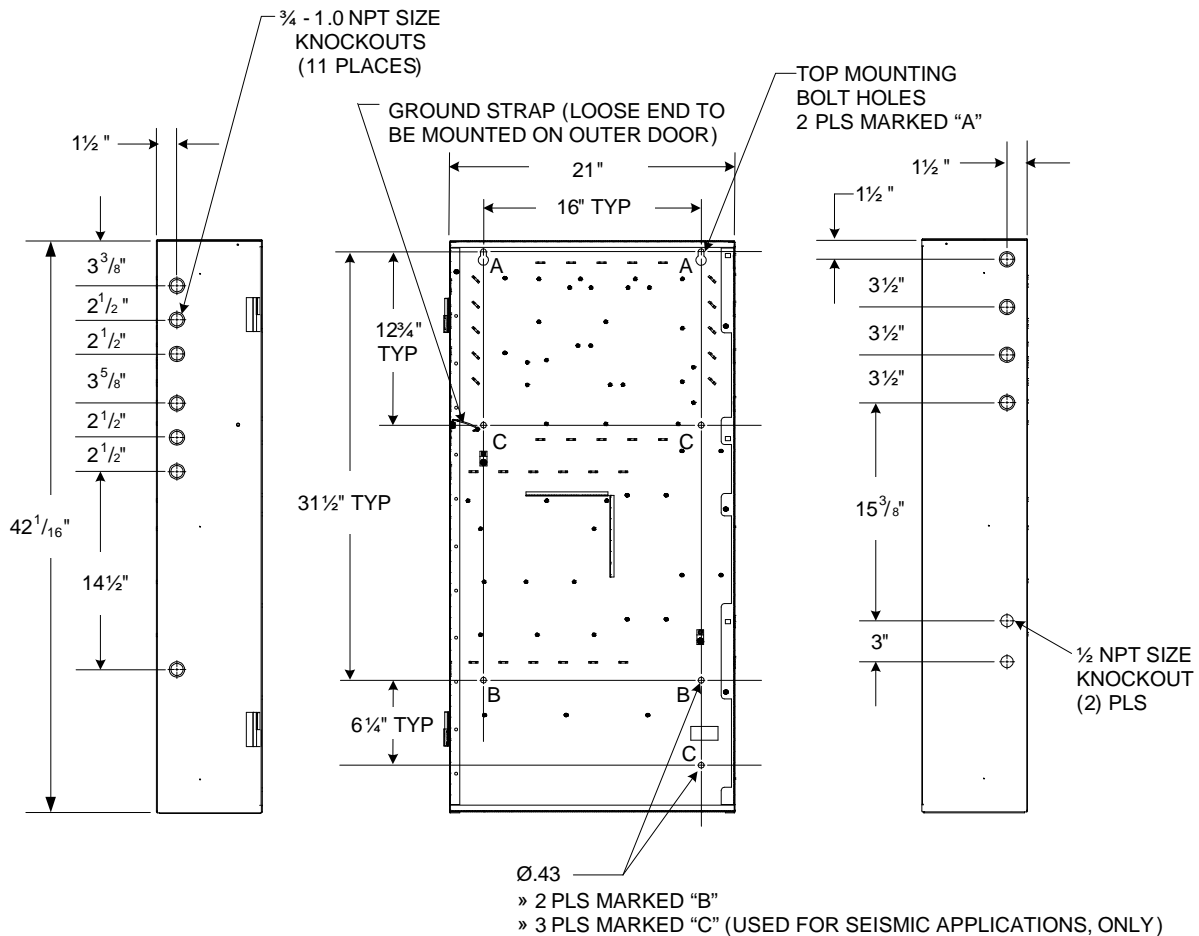

Figure 2
3. Referring to Figure 2, select and remove the knockouts that will be needed to pull power and signal wiring into the Panel.
4. Mark the wall through the two top mounting bolt holes (designated "A" in Figure 2).
8. Mark, drill and install the two bottom bolts in the backbox (at locations “B” in Figure 2).
4. Referring to Figure 2, select and remove the knockouts that will be needed for power and signal wiring access to the Panel interior.
8. Drill four bolt holes through the backbox and into the mounting surface at the positions marked "A" and "B" in Figure 2. For the "A" bolt holes, drill through the narrow (upper) portion of the elongated bolt hole.
11. Referring to Figure 2, select and remove the knockouts that will be needed for power and signal wiring access to the Panel interior.